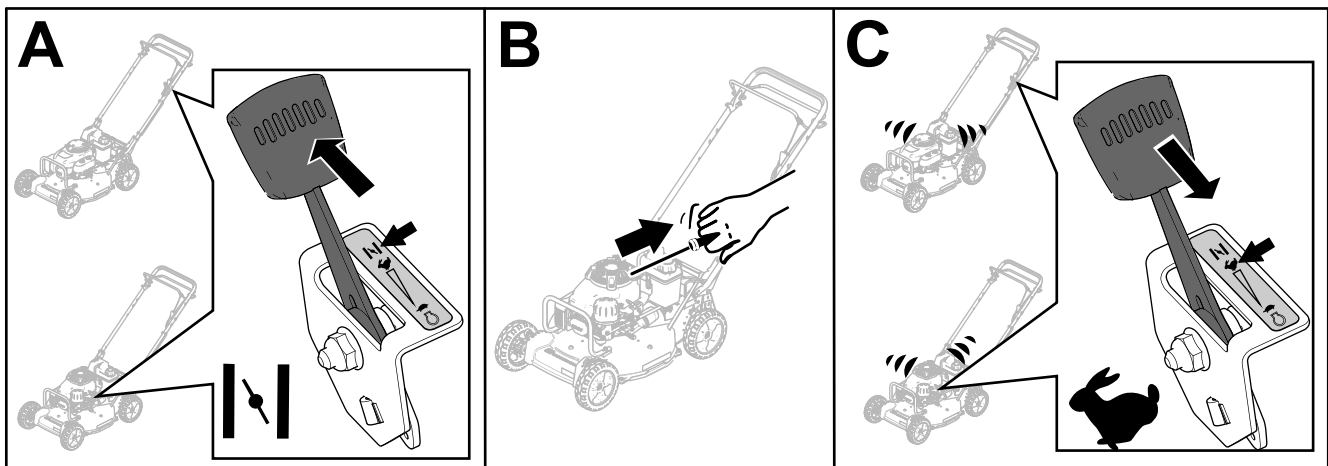

Figure 16
3. Move the throttle-control lever to the CHOKE position (A of Figure 16).
4. Pull the starter handle lightly until you feel resistance, then pull it sharply (B of Figure 16).
5. When the engine starts, move the throttle-control lever to the FAST position (C of Figure 16).